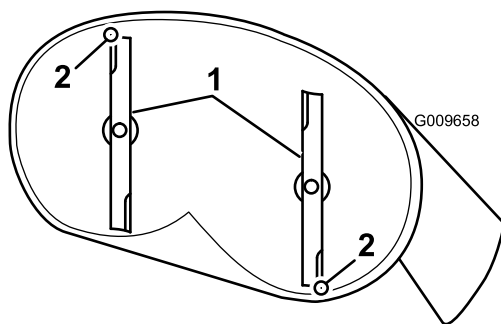

Figure 55
- Carefully rotate the blades so they are facing front to rear (Figure 55).